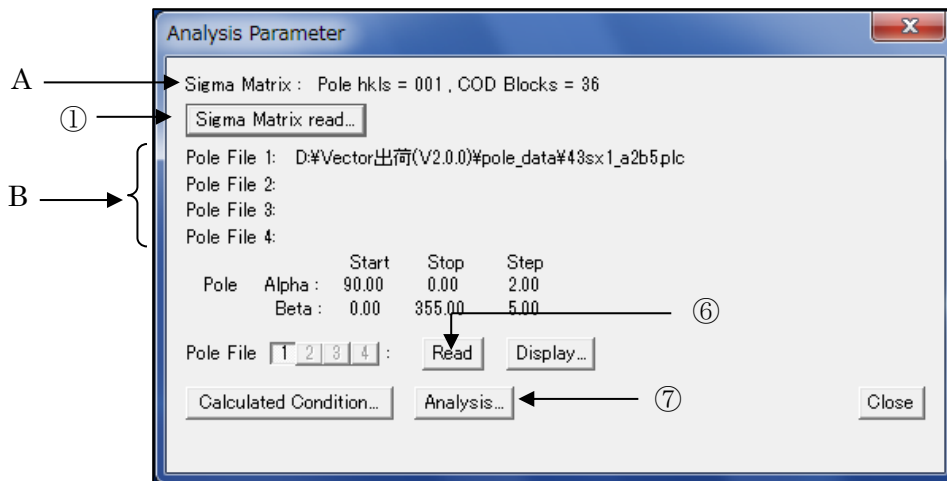
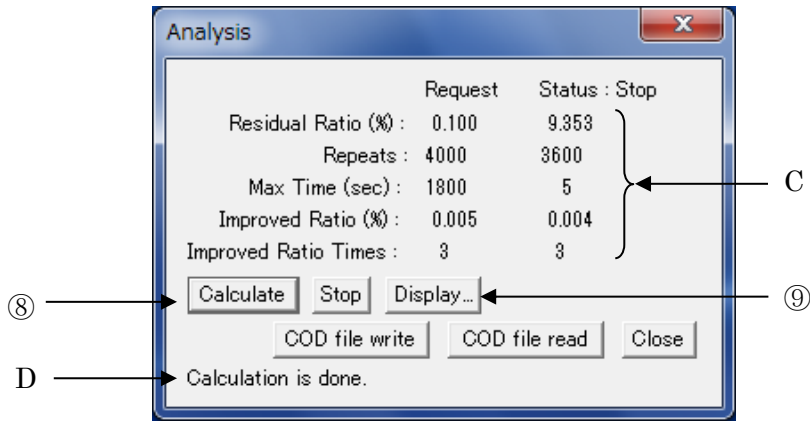

Fig. 2 Analysis Parameter Dialog
Fig. 4 Analysis
① By click “Analysis” of Main Menu, “Analysis Parameter” dialog ( Fig. 2 ) is shown.
The read sigma matrix information is shown at A of Fig. 2 .
- ⑤ By “Close” button click, this dialog is closed.
- ⑥ Return to Fig. 2, and confirm that Pole File is selected 1, and click “Pole file read” button.
The content of the pole figure is shown at B of Fig. 2.
- ⑦ When you click “Analysis...” button of Fig. 2, “Analysis” dialog (Fig. 4 ) is shown.
- ⑧ When you click “Calculate” button, Calculation of Vector Method Analysis is started. Calculated process is displayed at C of Fig. 4. Ordinarily, Calculation time is about 5 ~ 6 seconds. After calculation, “Calculation is done” message is shown at D of Fig. 4.